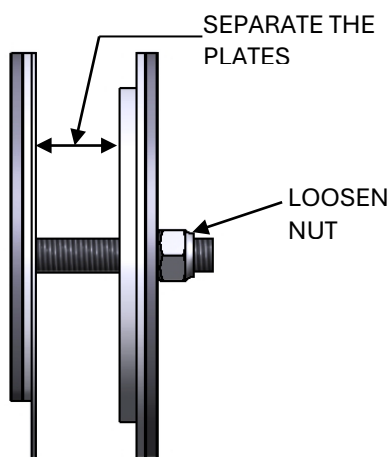

FIGURE 1
3. Loosen the nut on the EP6A until it makes contact with the weld bead at the end of the stud. [Figure 1]
4. Separate the plates on EP6A. [Figure 1]